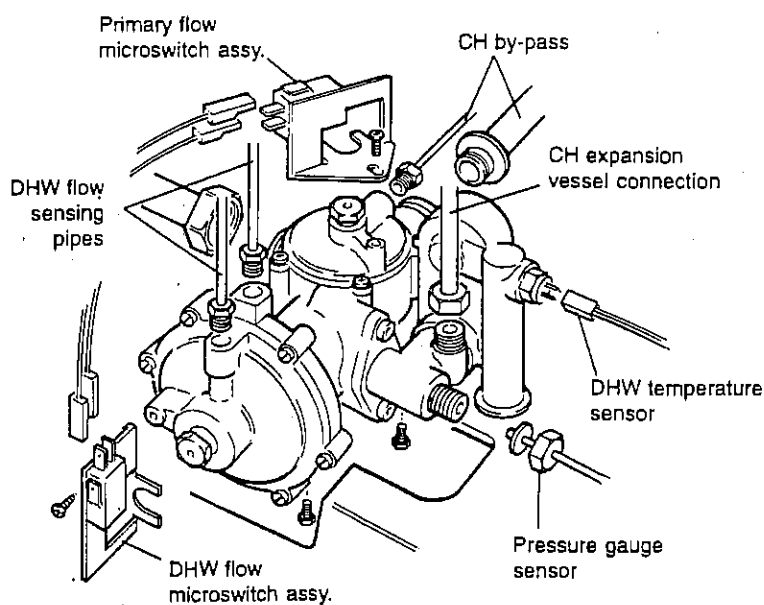

Fig. 35
8.34 DIVERTER VALVE ASSEMBLY - Fig. 35